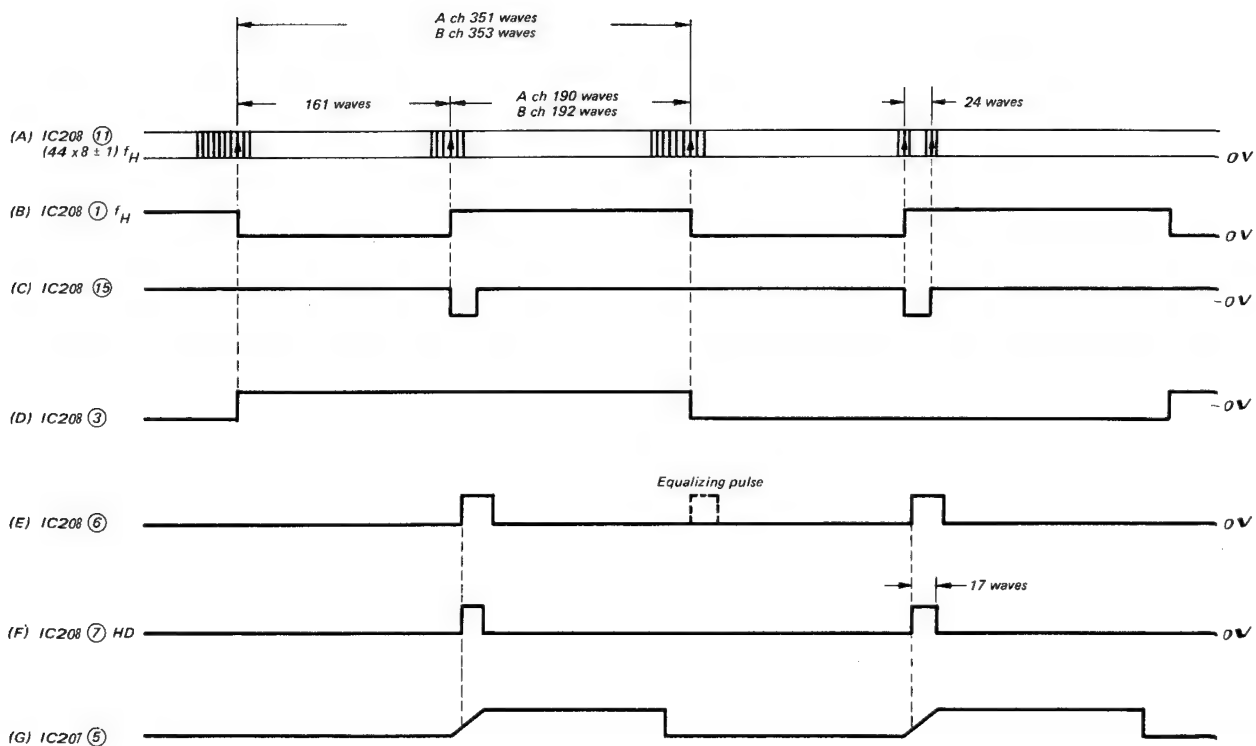

Fig. 3-30
Block diagram is shown in Fig. 3-31 and Timing chart is shown in Fig. 3-30.
The output signal from pin 11 of IC208 (waveform is shown in Fig. 3-30 (A)) is fed to the 1/(44 × 8 ± 1) countdown stage through pin 12.
The output of the countdown circuit which waveform is shown in Fig. 3-30(B) is fed to AFC detector through the integrator (waveform is shown in Fig. 3-30(E)).
The output of sync separator of which waveform is shown in Fig. 3-30(E) is fed to pin 6 of IC208, HD pulse generator where the equalizing pulses are removed and HD pulse (3μs) is output from pin 7 of IC208. (waveform is shown in Fig. 3-30(F))
The pilot burst cleaning pulse is output from pin 15 of IC208. (waveform is shown in Fig. 3-30 (C)).